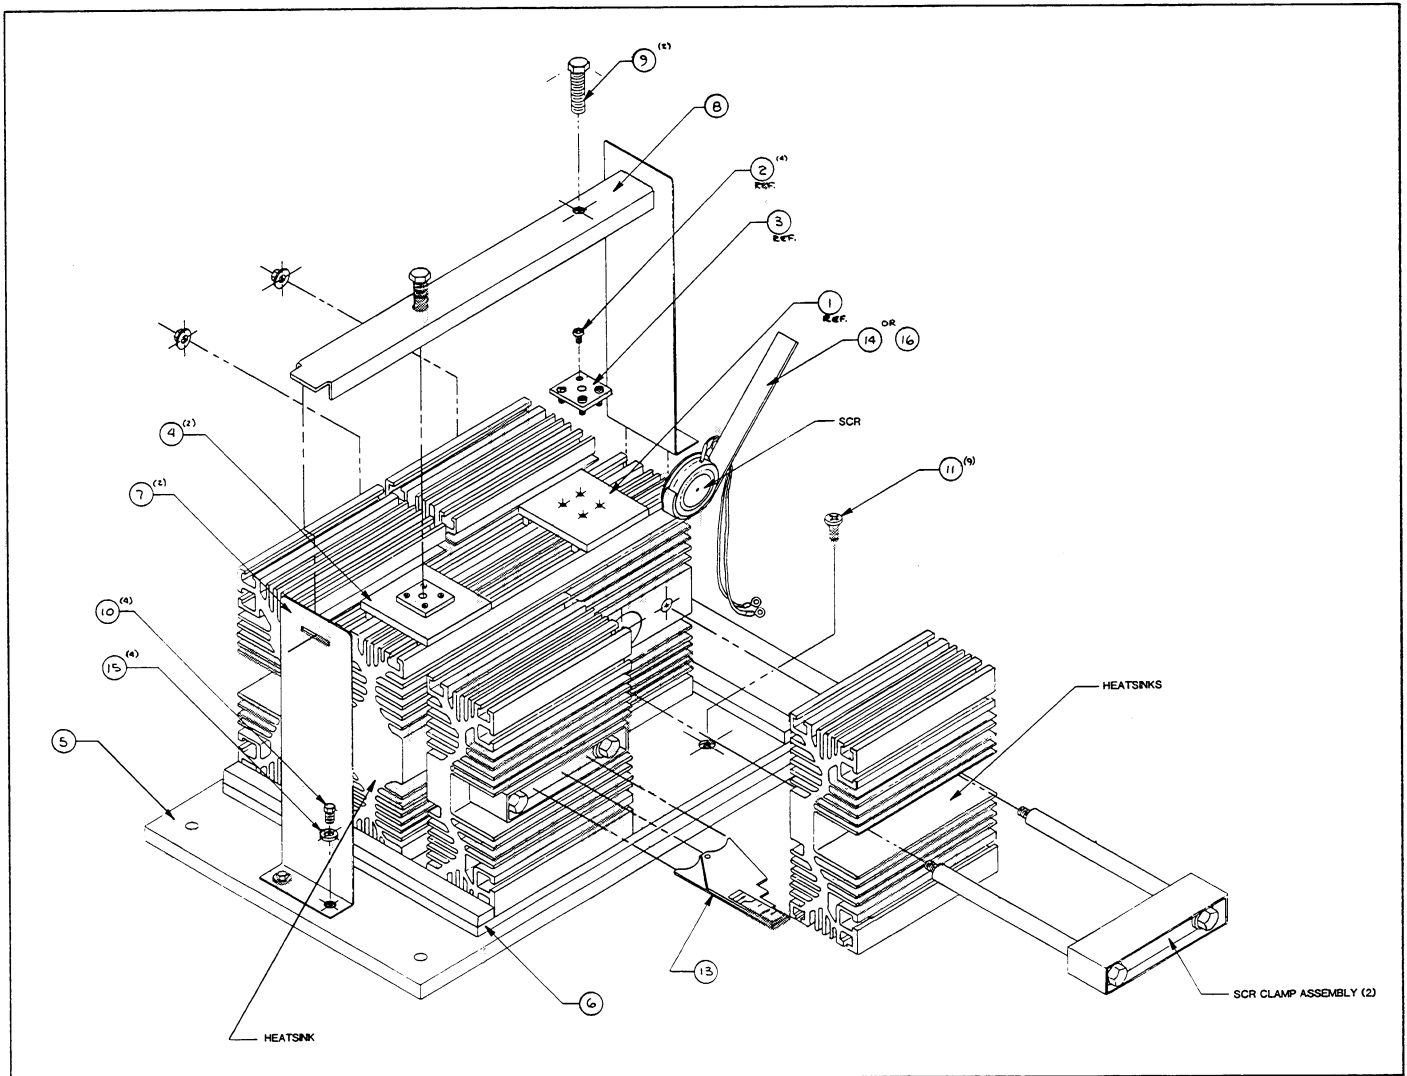

Figure 2 – Pole Piece Assembly
- 10. Place the Pole Piece on the fixture. Carefully position the Pole Piece until it is properly seated on the locating slots. See Figure 2.
- 11. Assemble the two Contact Plate Assemblies (4) as shown in Figure 2. Position the assemblies on top of the heat sinks as shown.
- 12. Insert the Contact Plate Rail (8) into the Rail Bracket (7) slots.
- 22. Position the PIP Gauge on the face of the SCR Clamp Assembly and press firmly until all three points of the gauge touch the clamp surface as shown in Figure 2.